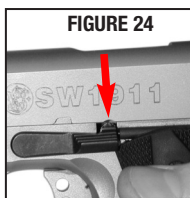

FIGURE 24
- Grasp the pistol and move the slide back until the take-down notch in the slide is aligned with the slide stop as shown (FIGURE 24).